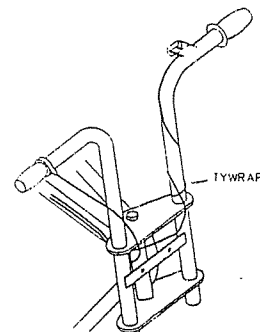

Figure 1: Routing Diagram
2. To mount the Fork Assembly to the Frame, align the Fork Pivot Holes with the Frame Pivot Tube and insert the Bolt (REF 47) through the Fork Holes and Bushings. Ensure the Throttle Cable is to the right of the Pivot Tube, see Figure 1. It may be necessary to tap the head of the Bolt with a hammer to seat it in position against the Nut welded to the bottom side of the Lower Fork Plate. Tighten the Bolt until there is no play between the Fork and the Pivot Tube but will still allow the Fork to rotate freely.
5. Rotate the Twist Grip so that the Throttle Cable points downward and slightly ahead. The Throttle Cable and Housing should form a smooth curve from the Twist Grip to the upper Frame tube, see Figure 1. Tighten the two Screws in the Twist Grip securely.
1. Rout the Stop Switch Wire (REF 65), as shown in Figure 1, along the Top, Right side of the Frame, under the Top Crown Plate, and between the Pivot Tube and Right Fork Tube. Wrap the Wire around the Left Handlebar one time. Remove the Nut and On/Off Plate from the Stop Switch. Pass the Stop Switch up through the mounting hole on the Handlebar. Replace the On/Off Plate and the Nut. Work any slack in the Stop Switch Wire towards the Pivot Tube and apply one Ty-Wrap (REF 72) as shown in Figure 1. Securely tighten the Nut.